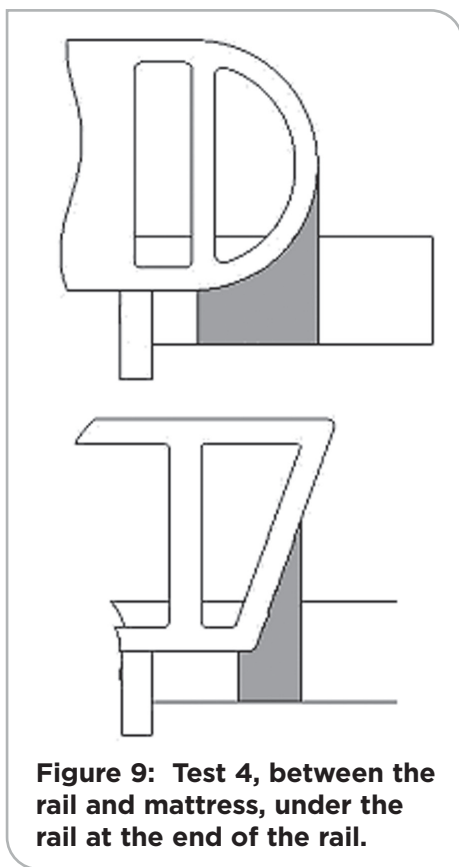

Figure 9: Test 4, between the rail and mattress, under the rail at the end of the rail.
5. Do the test on the end of the rail (figure 9). Test the rails in any order you choose. If the bed has split rails, you may need to lower the rail next to the one being measured to make room for the tools.